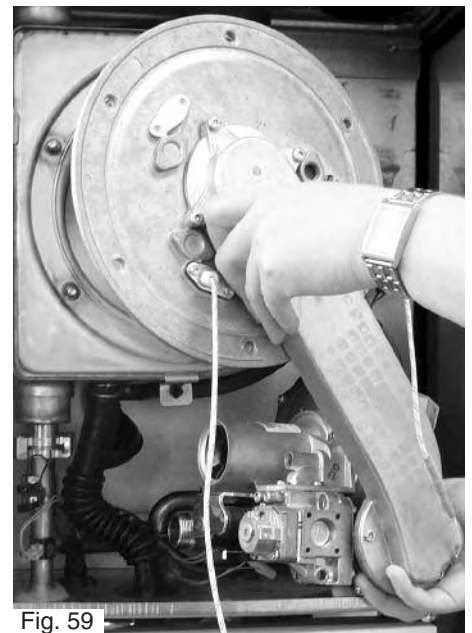

Fig. 59
7. Remove the air gas assembly and combustion chamber front (Fig. 59);